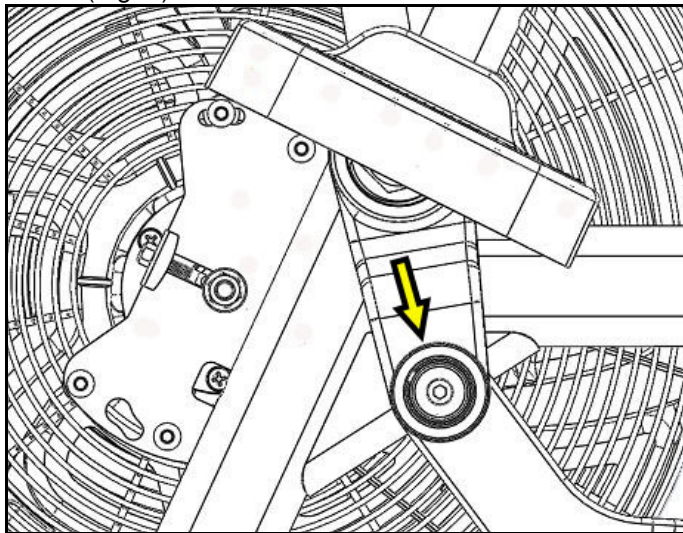

Fig. 8
8. Using a flat head screw driver, remove the cap attached to the link. Using 8mm hex key, remove the bolt going through the bearing into the frame (Fig. 8).